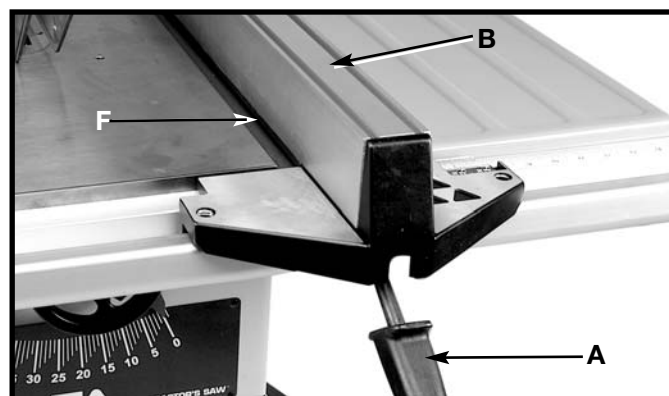

Fig. 56
2. Position the fence (B) Fig. 56, along one edge of the miter gage slot (F) as shown and lock the fence in that position. The edge of the fence (B) Fig. 56, should line up parallel to the miter gage slot (F). If an adjustment is necessary, proceed as follows: